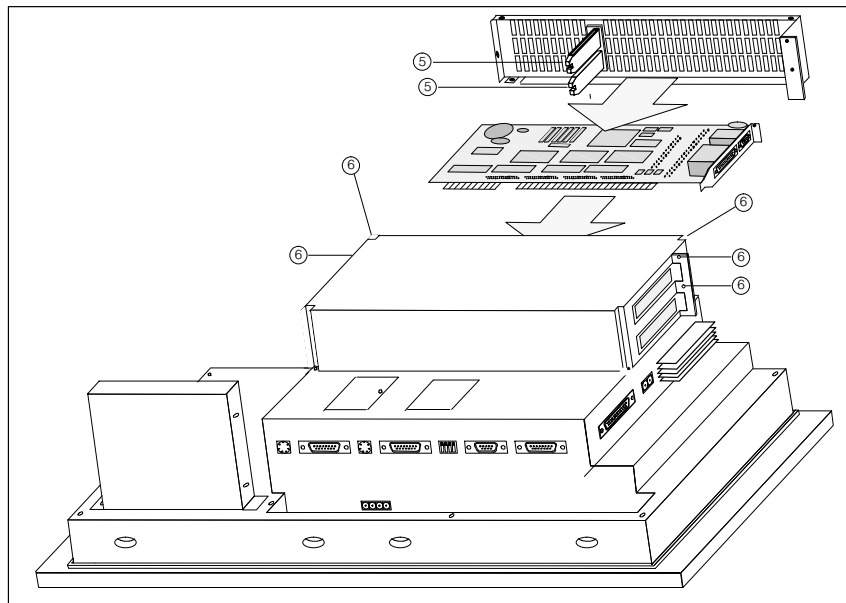

Figure 5-3 Inserting the AT card and securing the side panel
7. Fit the side panel so that the sliders ⑤ firmly position the edges of the inserted AT cards.
8. The secure the side panel with five screws ⑥ (Figure 5-3).